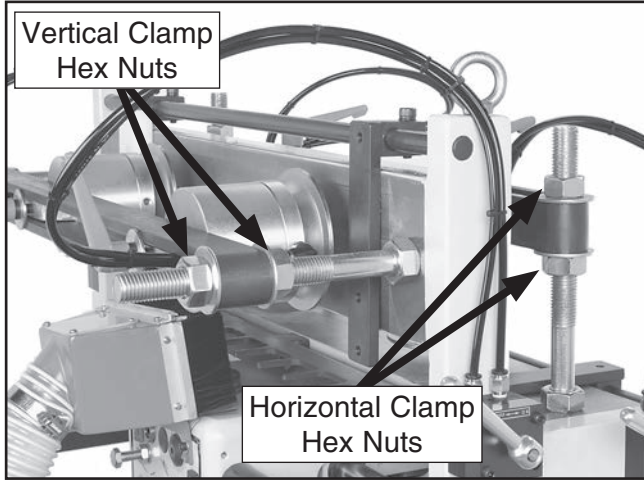

Figure 18. Hex nuts for adjusting clamping thicknesses (only one side shown).
- Use an adjustable wrench to loosen the hex nuts shown in **Figure 18** away from the clamp mounting bracket.